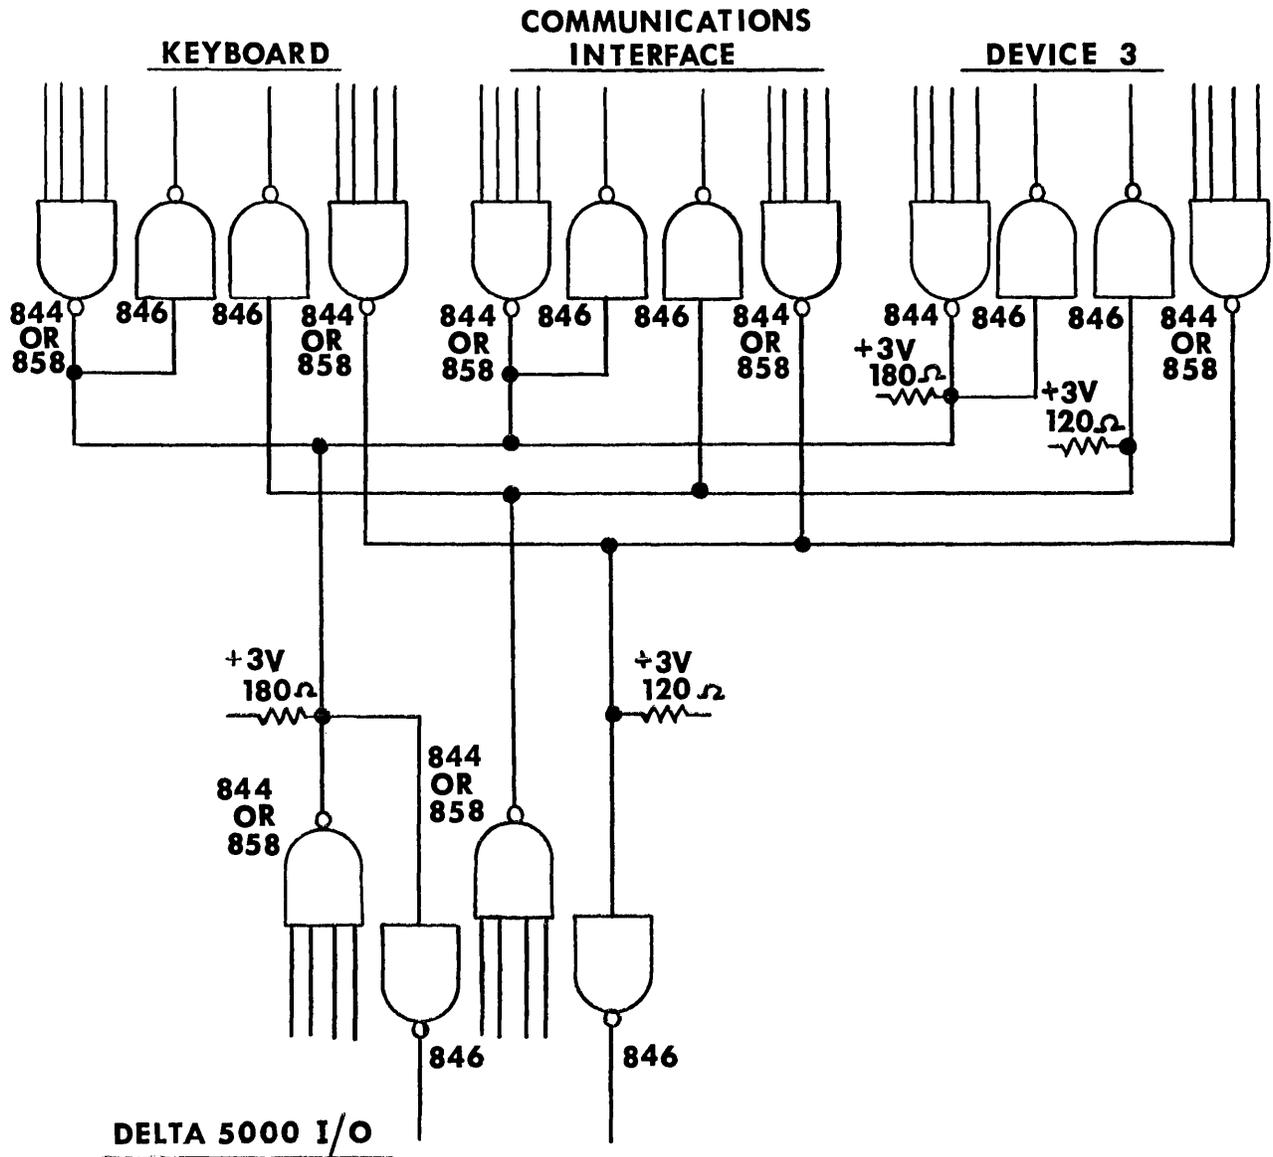

FIGURE 8-1 PARTY LINE LOADING INTERCONNECTING DIAGRAM
The Party Line is attached to the I/O control PC Card in the Delta 5000. All signal levels of the party line are DTL compatible and low (L) when true. Each line whose source is on the I/O card is driven with a DTL 844 or 858 driver. This driver requires a pull up resistor. The last device in a string which uses the signal should terminate it with a 120 ohms resistor connected to a +3 volts (supplied on the party line connector). See Figure 8-1. If the line is bidirectional, it should be terminated at both the Delta 5000 and the last location in the string with a 180 ohms resistor to the +3V supply. The +3V supply must have a low frequency and high frequency bypass capacitor on the external controller interface.